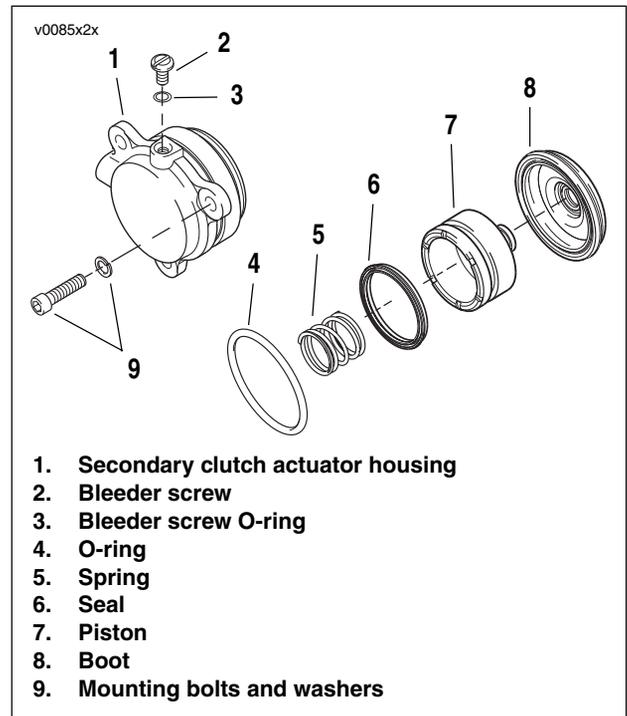

Figure 2-38. Secondary Clutch Actuator Components
1. See Figure 2-38. Remove O-ring (3) from bleeder screw (2).
2. Pull off boot (8), piston (7), seal (6), and spring (5) from housing (1). Slip O-ring (4) off housing.
1. See Figure 2-38. Coat cylinder bore, piston, O-ring, boot, and bleeder screw with lubricant from service kit.
2. Orient a **new** seal (6) with square split lip toward rider side of actuator and fit to piston (7).
4. Install a **new** O-ring (4) into groove at base of secondary clutch actuator housing (1).
5. Fit boot (8) to piston (7) and push edge of boot over machined lip around housing (1).
6. Fit new O-ring (3) to bleeder screw (2) and loosely install into housing.